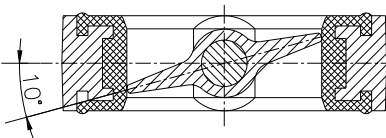

Fig 2.2 Disc in 10° open position
4.2 All wrapping and protection on the valves should not be removed until the valve is ready for installation. All valves are delivered with disc in 10° open position (Refer to figure 2.2).